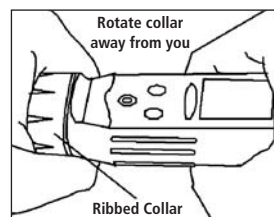

Figure 6: Removal of collar from tester
- 1 With dry hands, grip the ribbed instrument collar with electrode facing you. Twist the collar counter clockwise (see figure 6). Save the ribbed Testr collar and O-ring for later use.